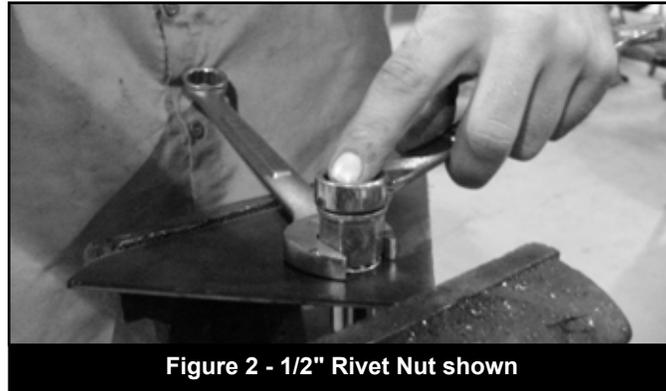

Figure 2 - 1/2" Rivet Nut shown
7. For a 1/2" rivet nut, hold the nut closest to the rivet nut still with a 7/8" wrench and tighten the 1/2" bolt with a 3/4" wrench to set the rivet nut. Be sure to hold the rivet nut flush to the surface and square to the hole as it is tightened. Figure 2